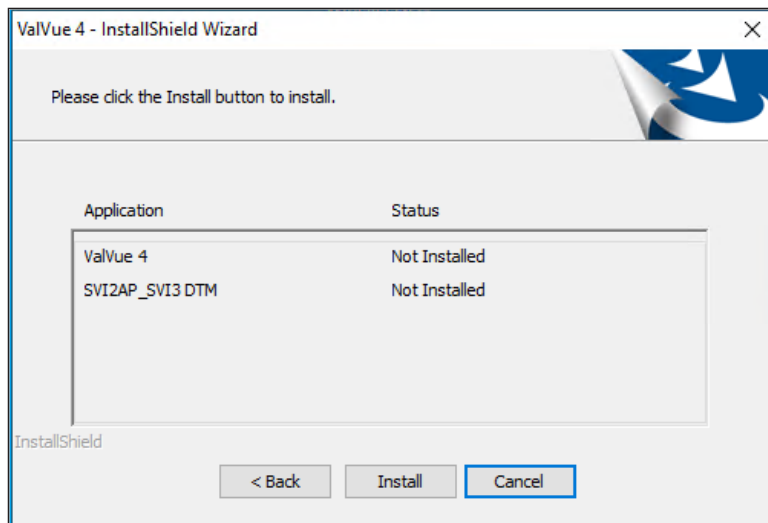

Figure 7 - Display Application Status
6. Click **Next** and Figure 7 appears.